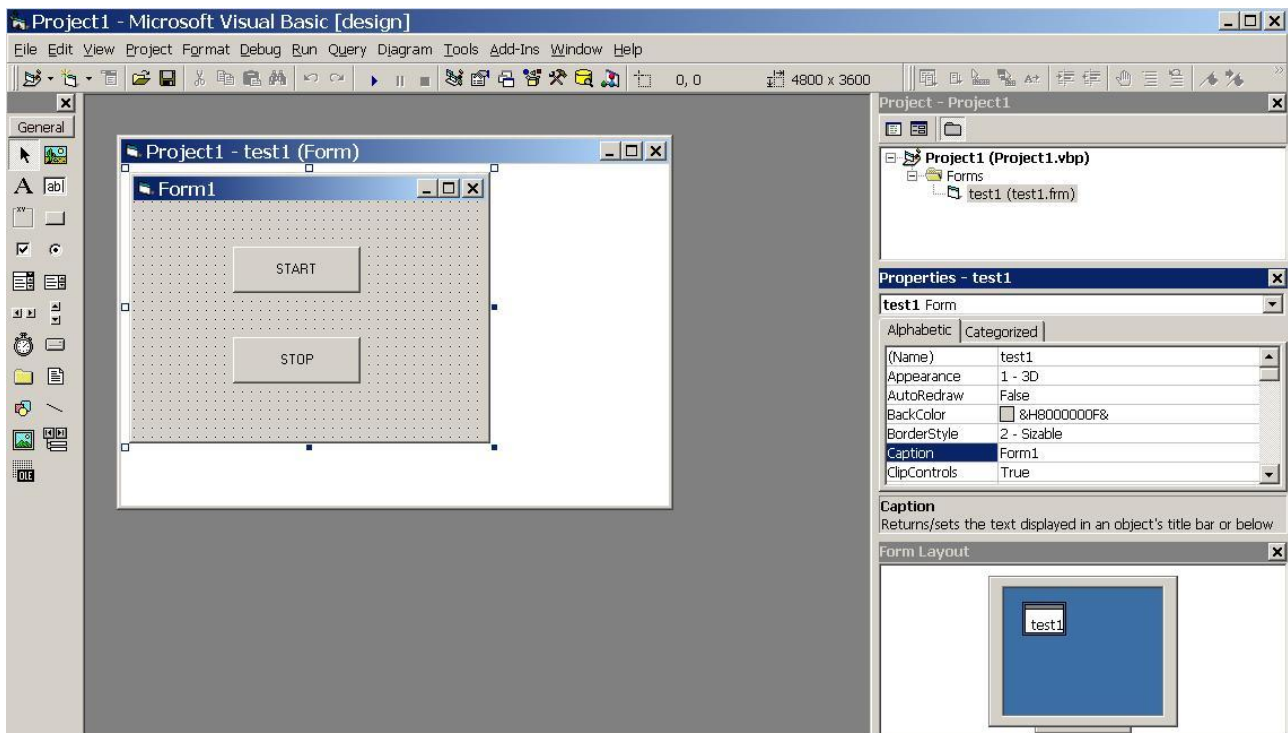

Figure 5-1 Creates a new form
- (1) Create a new folder, such as E:\test1;
- (2) Open Visual Basic 6.0;
- (3) Create a new project with “Standard EXE”, add 2 buttons “START” and “STOP” in the form. Set “START” button name as CB\_Start, and “STOP” button name as CB\_Stop. See figure 5-1;